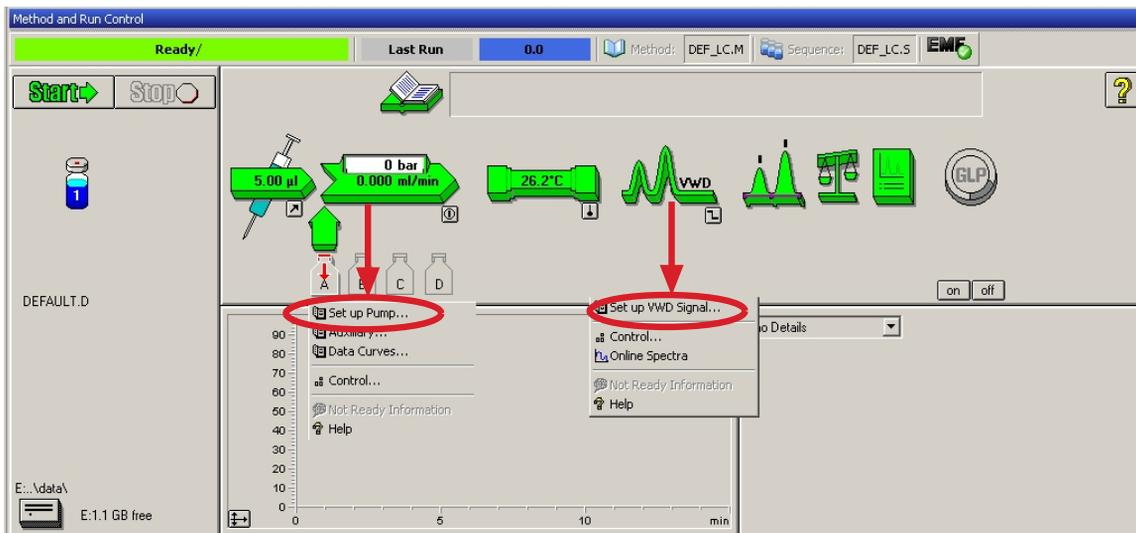
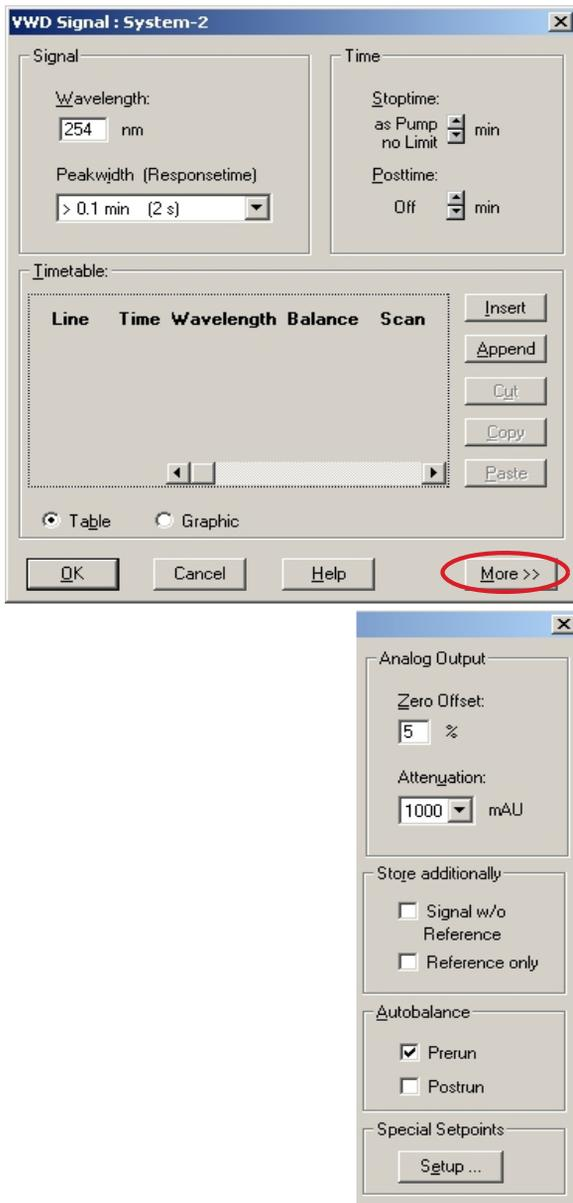

Figure 18 Open the module menu
Figure 19 Detector Settings (default)
- Click on the module icons (Figure 18 on page 60) and open the **Setup** of these modules. Figure 19 on page 61 shows the detector settings (do not change the detector parameters at this time).